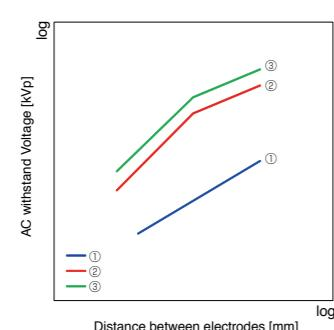

Figure 2. Distance between electrodes-withstand voltage characteristics
(3) Electrode conditioning
Figure 2 shows "distance between electrodes-withstand voltage" characteristics. It is not possible to obtain high withstand voltage like characteristics ① (before conditioning) by simply placing electrodes in vacuum. High withstand voltage requires conditioning, which is to apply high working voltage and repeat low current flashover multiple times performed in our HASS testing. Characteristics ② exhibit withstand voltage after conditioning during production/processing range. Characteristics ③ display post conditioning withstand voltage. Please note that instant discharge may occur after reaching characteristics ② and ③ by conditioning.